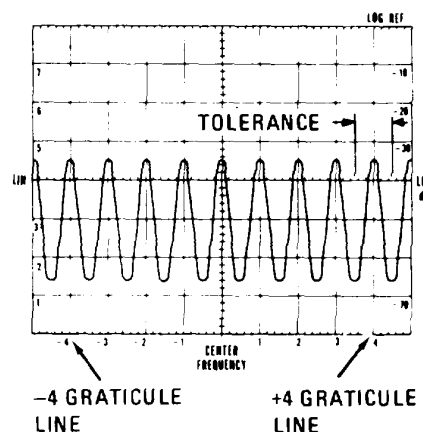

Figure 4-3. Scan Width Accuracy Display
2. Note that a 20 kHz marker appears at about every major division on the CRT display. Tune FREQUENCY and FINE TUNE to center a marker on the -4 graticule line (see Figure 4-3).